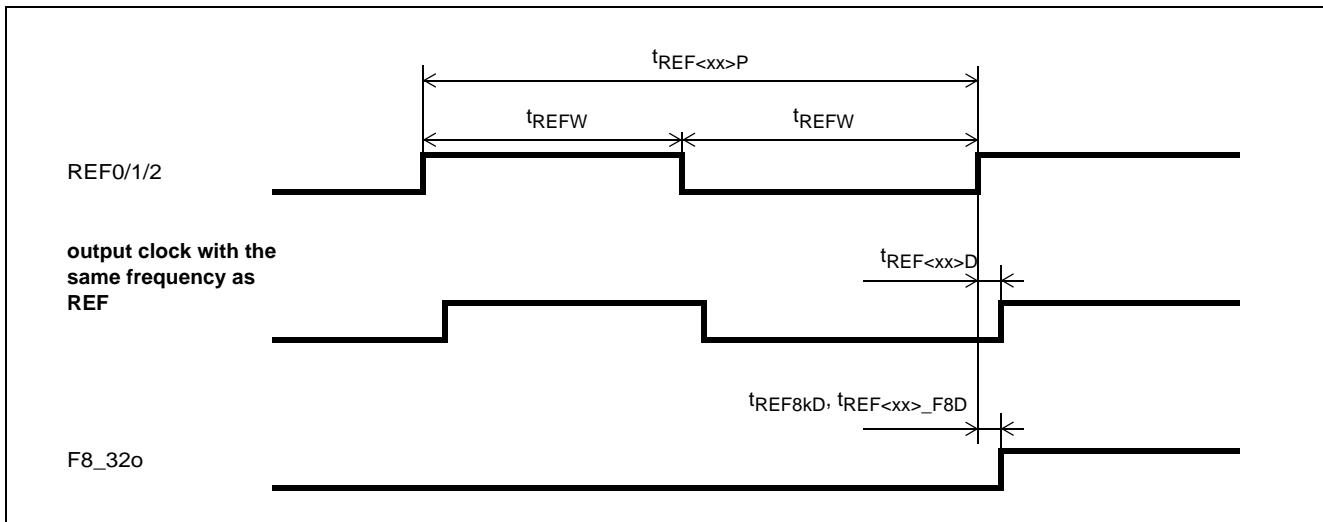

Figure 26 - REF0/1/2 Input Timing and Input to Output Timing
**AC Electrical Characteristics\* - Input timing for REF0, REF1 and REF2 references (see Figure 26).**
**AC Electrical Characteristics\* - Input to output timing for REF0, REF1 and REF2 references when TIE\_CLR = 0 (see Figure 26).**